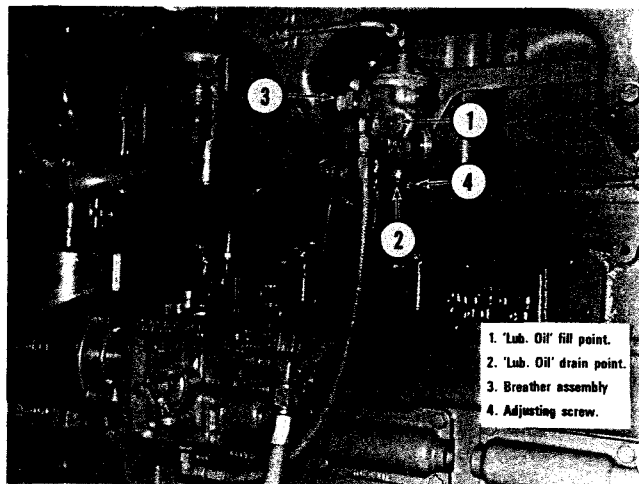

Fig. 2-65, (N10503). Aneroid
At each "C" Check, remove fill plug (1, Fig. 2-65) and drain plug (2), allow aneroid to drain. Replace drain plug (2), fill aneroid with clean engine lubricating oil. Replace fill plug (1). Remove and replace aneroid breather (3).
Normally, no adjustment of the aneroid is required; however, if smoke is evident and all other engine adjustments have been checked, back out adjusting screw (4, Fig. 2-65). If screw must be backed out until acceleration is slow, have unit checked by a Cummins Distributor.